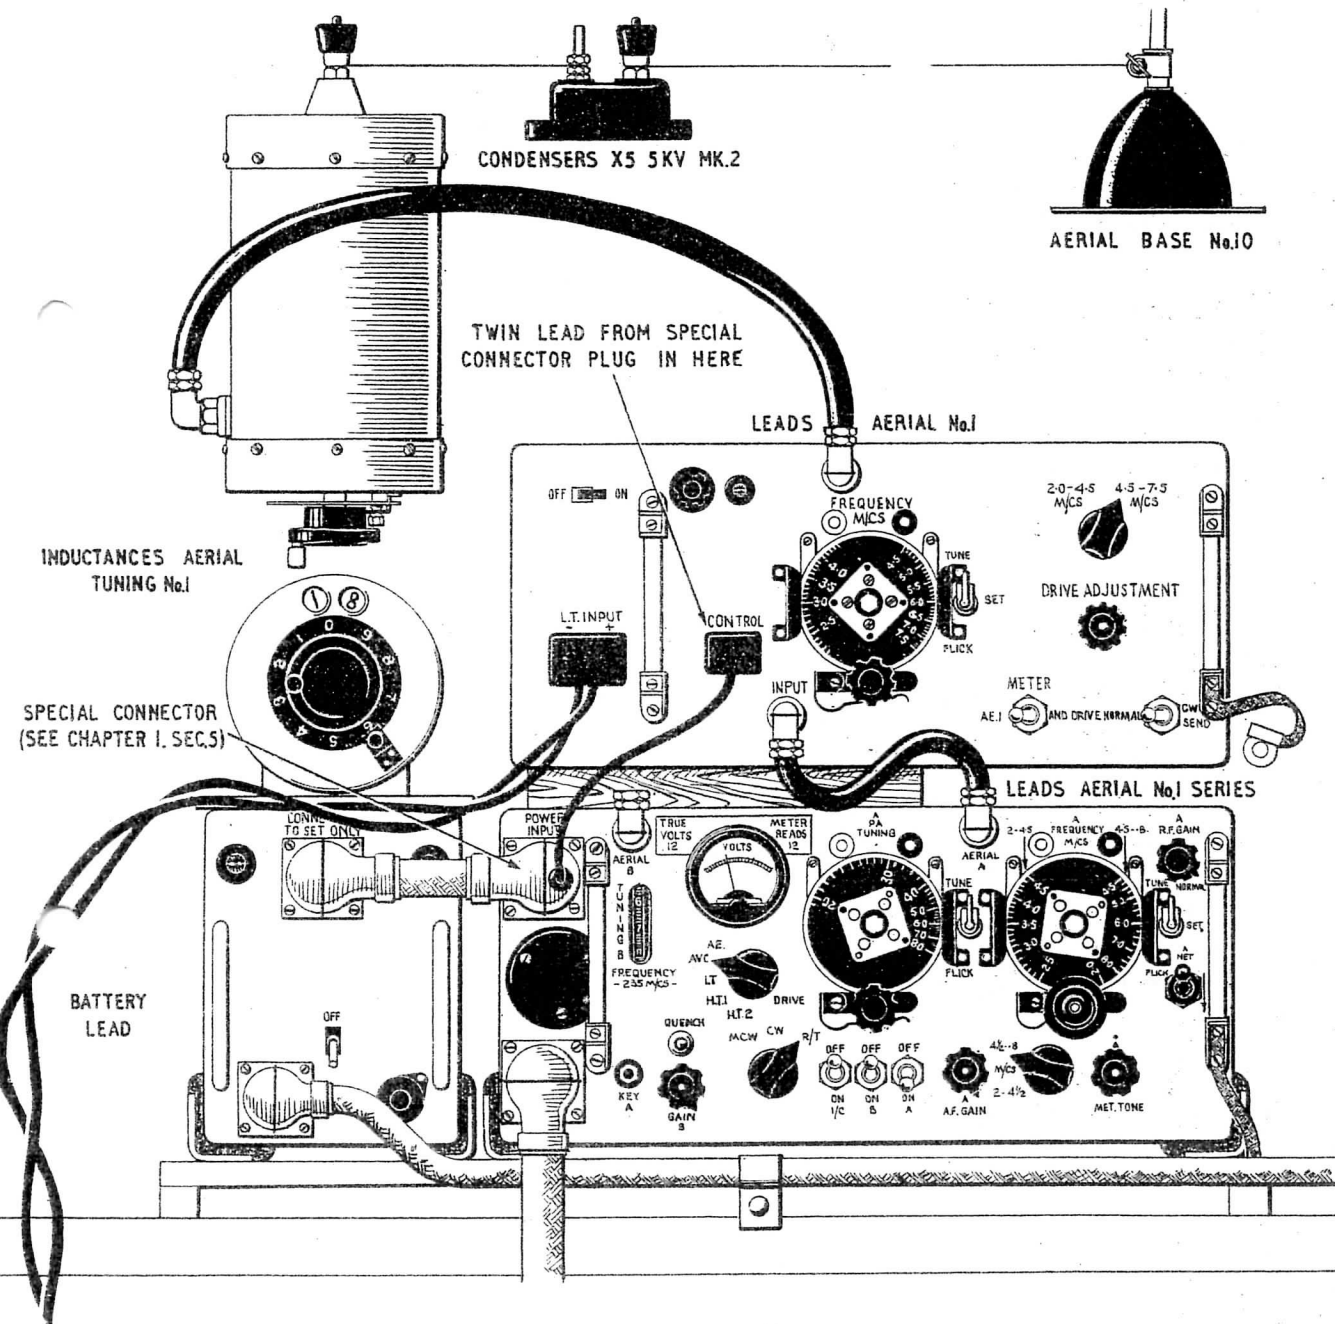
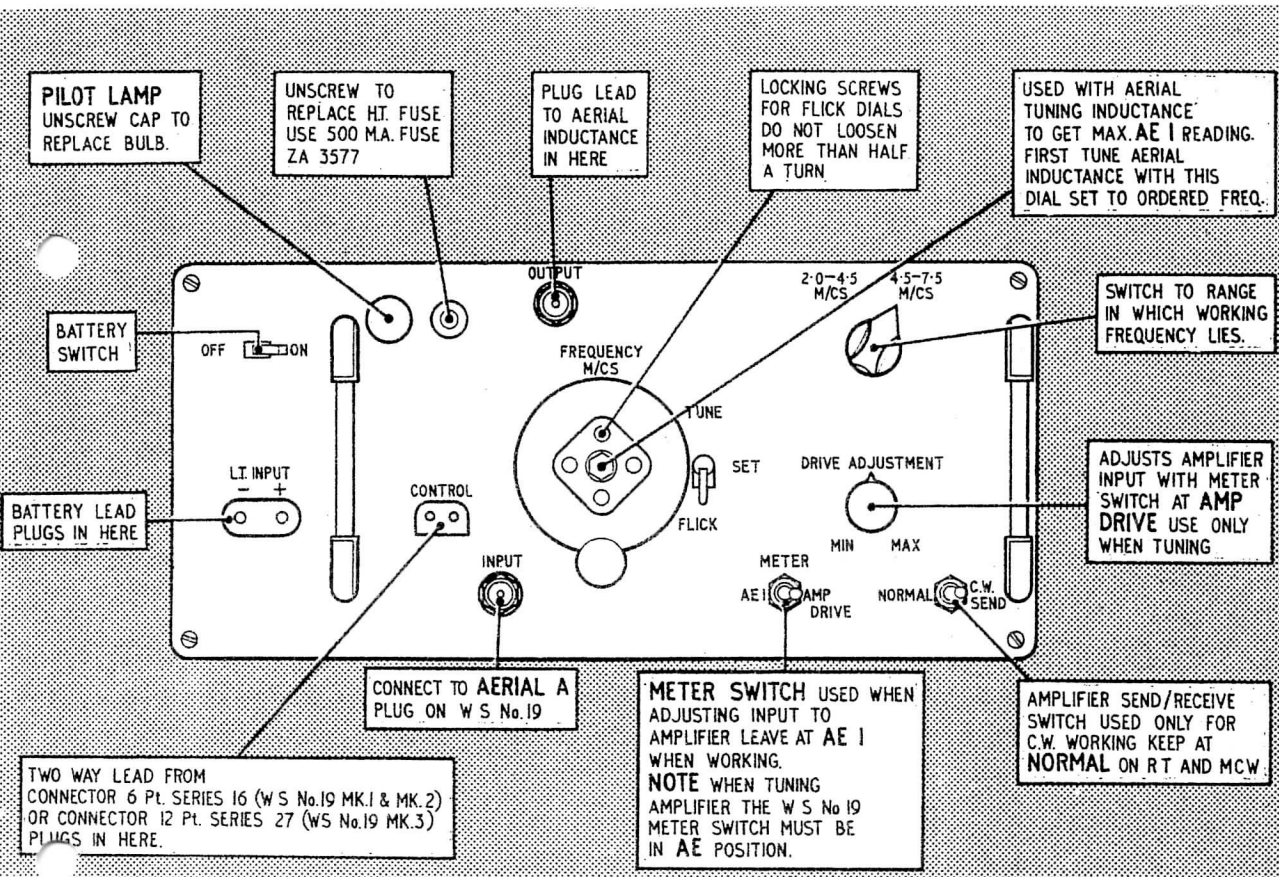
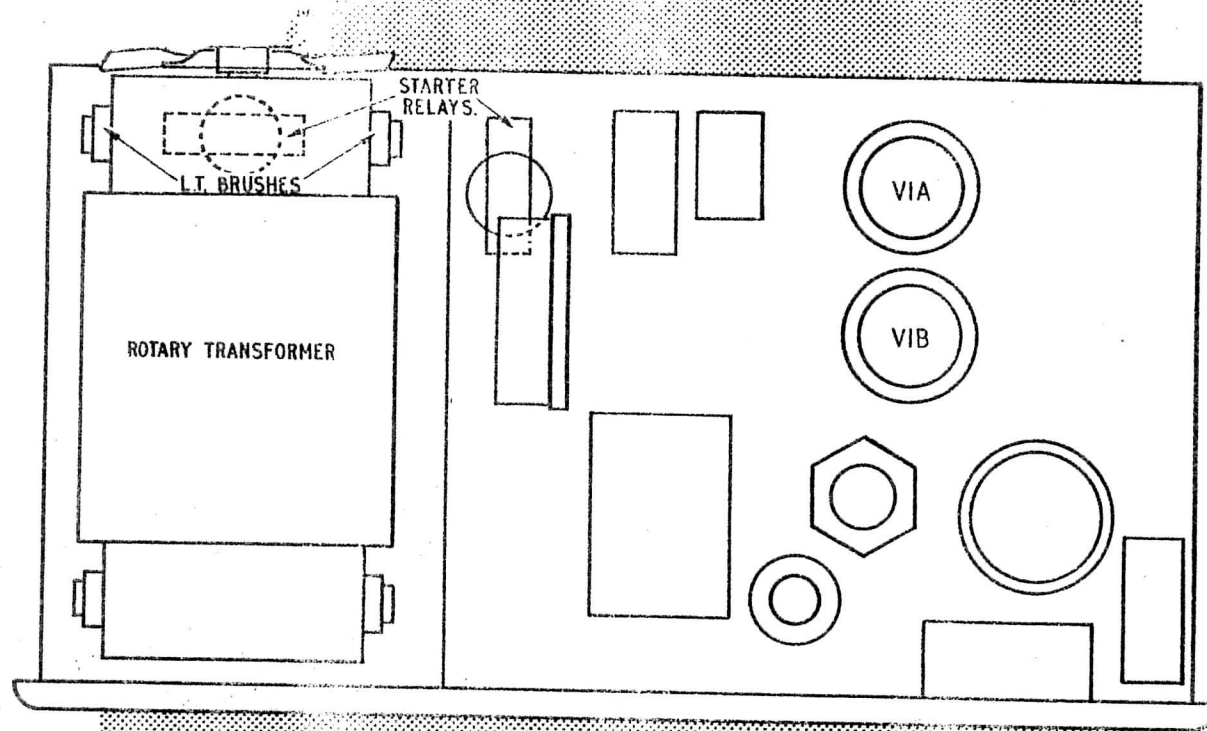

FIG.1 TYPICAL LAYOUT
FIG. 2 CONTROLS AND CONNECTIONS
FIG. 3 POSITION OF COMPONENTS ON CHASSIS (TOPSIDE)
Fig. 1 shows a typical layout with an R.F. amplifier No. 2 mounted on top of the Wireless Set No. 19, but in some installations the amplifier has to be mounted on a separate carrier. Connectors of suitable length are supplied with each installation kit.
The various controls are given below and are shown in Fig. 2.
- (1) Connecting OUTPUT feeder. }
(2) Connecting INPUT feeder. }
(3) Connecting the power supply. } see Figs. 1 and 2.
(4) Connecting CONTROL lead. }
(5) Replacing H.T. fuse (see Fig. 2).
(6) Changing indicator bulb (see Fig. 2).
(7) Taking off the grille. } See W.S. No. 19 Working
(8) Taking the amplifier out of its case. } Instructions, Part I.
- (9) Changing valves. If the amplifier gives poor results it may be necessary to change valves; leave this to a Radio Mechanic whenever possible.
- (10) To change valves remove the amplifier from its case and refer to Fig. 3.